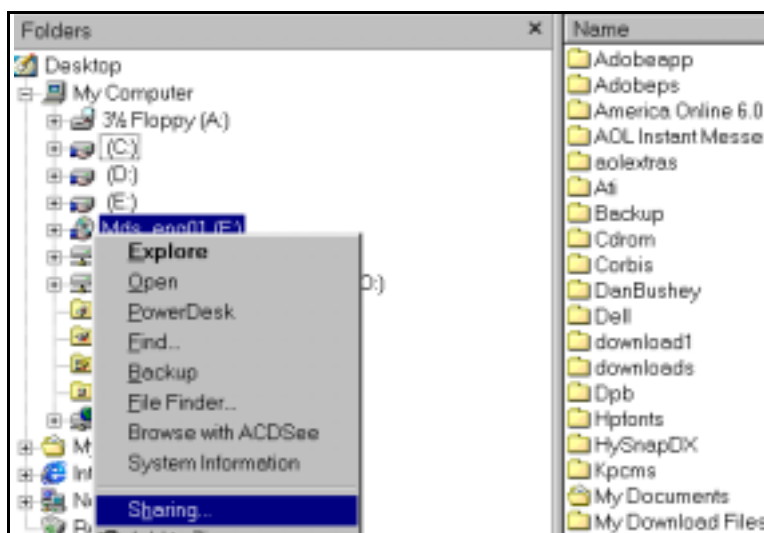

Figure 14-7 Windows Explorer
2. Right-click on *drive* icon in “Exploring” window, and select *Sharing* from drop down menu (see Figure 14-7).